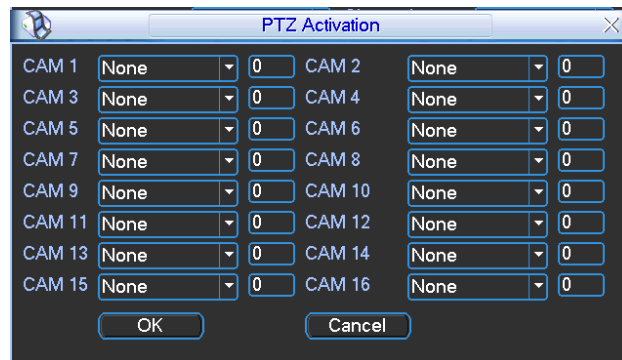

Figure 6-61
- PTZ activation: Here you can set PTZ movement when alarm occurs. Such as go to preset, tour & pattern when there is an alarm. Click “select” button, you can see an interface is shown as in Figure 6-61.